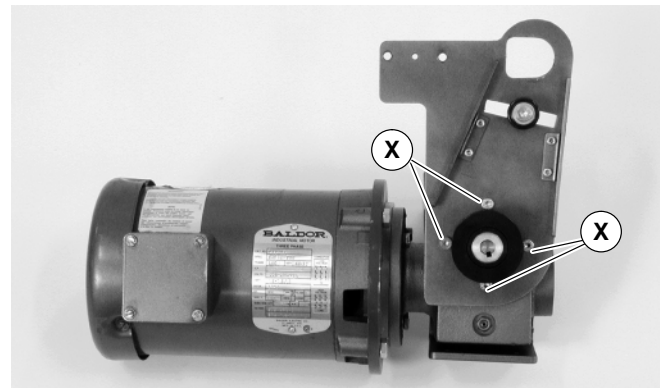

Figure 4
2. If required, change gearmotor position by removing four (4) screws (X of Figure 4) from bottom mount assembly and two (2) screws (Y of Figure 5) from gear reducer support. Rotate gearmotor to other position and replace screws. Tighten to 103 in-lb (12 Nm).